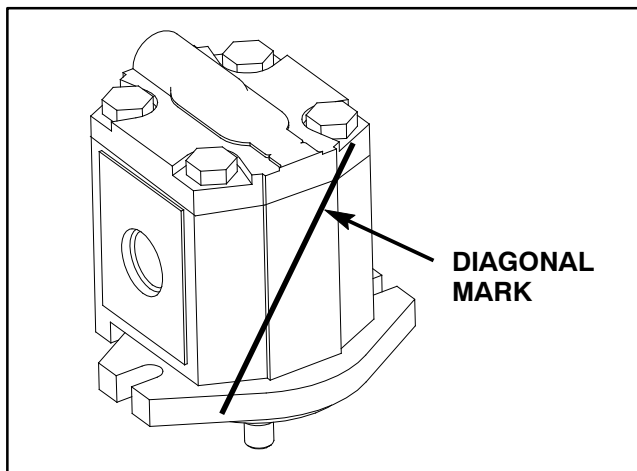

Figure 95
2. Use a marker or scribe to make a **diagonal** mark across the front flange, body and rear cover for reassembly purposes (Fig. 95).